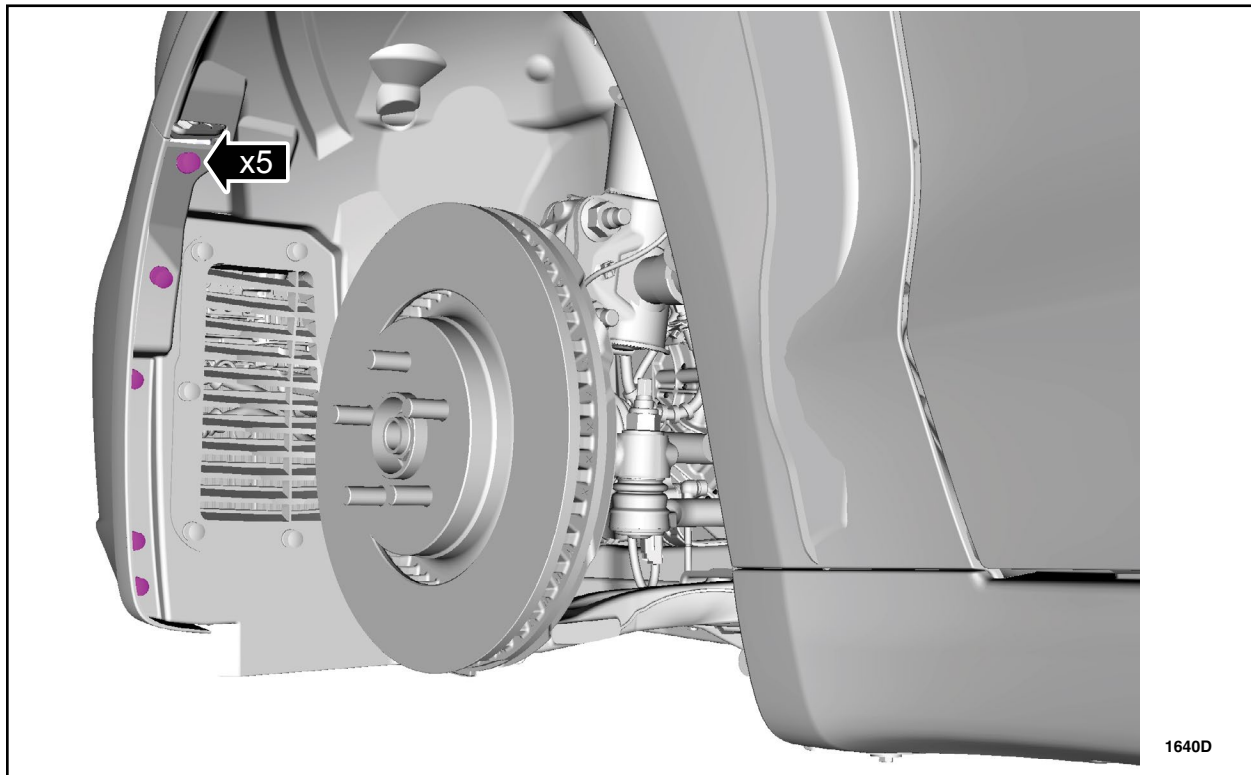

FIGURE 1
2. Remove the five plastic rivets from the front of both front fender liners. See Figure 1.